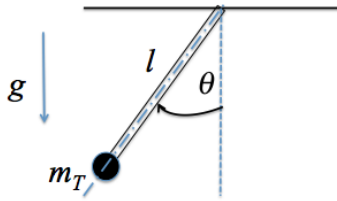

Figure P1.73 A compound pendulum with a tip mass.
- 1.73** Calculate the frequency of the compound pendulum of Figure P1.73 if a mass m_T is added to the tip, by using the energy method. Assume the mass of the pendulum is evenly distributed so that its center of gravity is in the middle of the pendulum of length l .